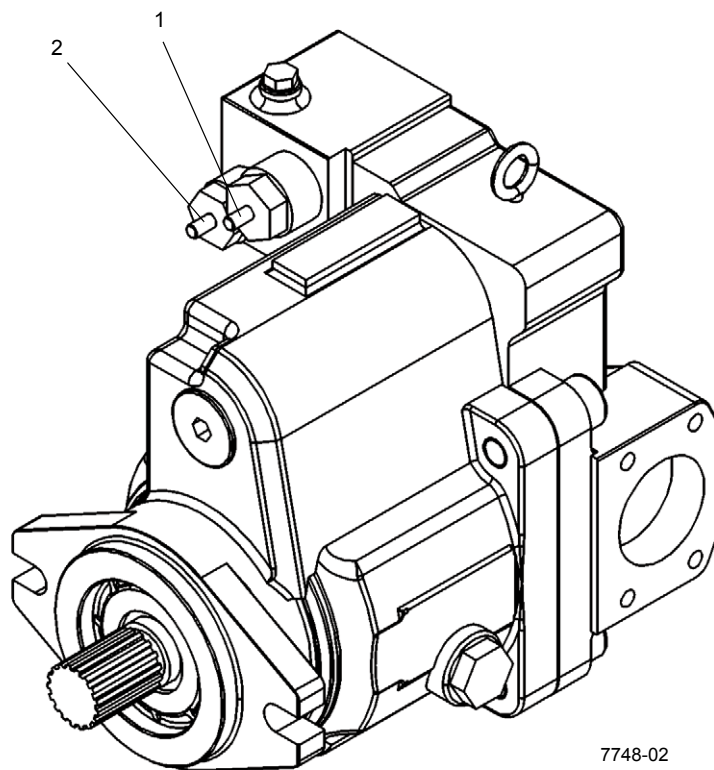
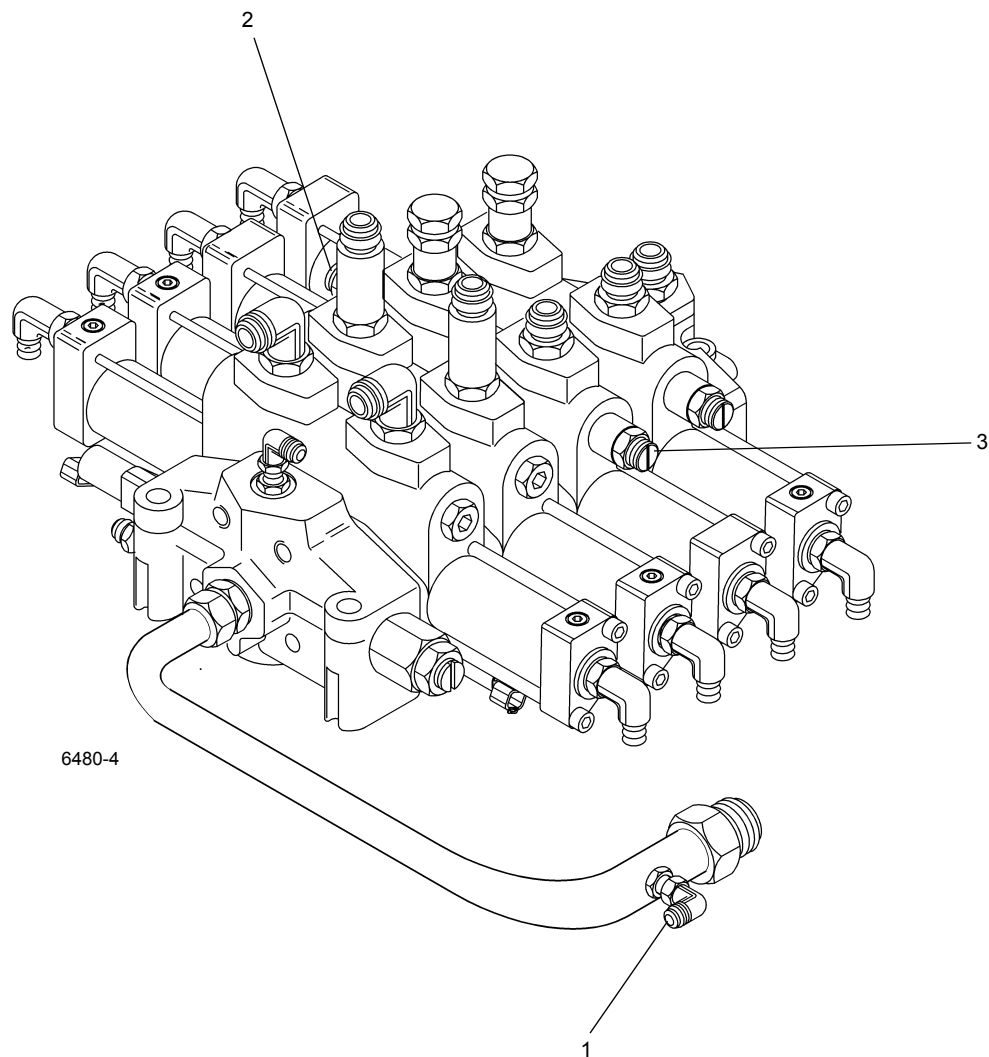

FIGURE 2-10
FIGURE 2-11
3. Start engine and throttle up to full RPM. Feather into the boom lift controller to full controller stroke (up or down) and hold. Adjust the maximum pressure adjusting screw on the main piston pump "in" to increase or "out" to decrease so that a gauge pressure reading of 4000 psi ±50 (see Figure 2-10).
7. Start engine and throttle up to full RPM. Attempt to telescope OUT by feathering into the controller to full controller stroke. Adjust the work port relief valve "in" to increase or "out" to decrease so that a gauge pressure reading of 2800 psi ±50 is achieved (see Figure 2-11).
11. Start engine and throttle up to full RPM. Attempt to telescope IN by feathering into the controller to full controller stroke. Adjust the work port relief valve "in" to increase or "out" to decrease so that a gauge pressure reading of 3200 psi ±50 is achieved (see Figure 2-11).
3. If a gauge reading of 250 to 400 psi cannot be attained, stop the engine and install a pressure check diagnostic quick disconnect with gauge onto the inlet gauge port of the Main Directional Control Valve (see Figure 2-11). Start engine and idle. Adjust the piston pump differential pressure adjusting screw "in" to increase or "out" to decrease so that a gauge reading of 350 psi is achieved (see Figure 2-10). Repeat Steps 1 and 2.